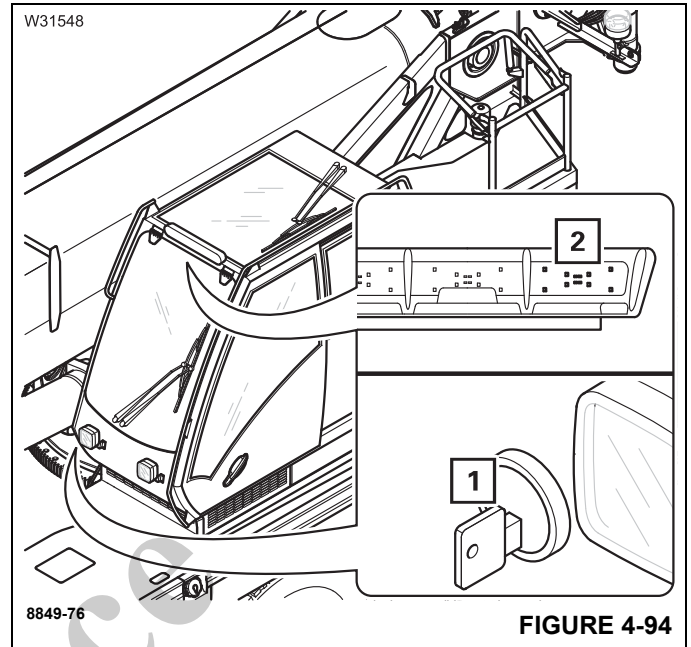

FIGURE 4-94
- Insert the key into the key-operated switch (1), (Figure 4-94).
- The status display (2), (Figure 4-94) will flash red.